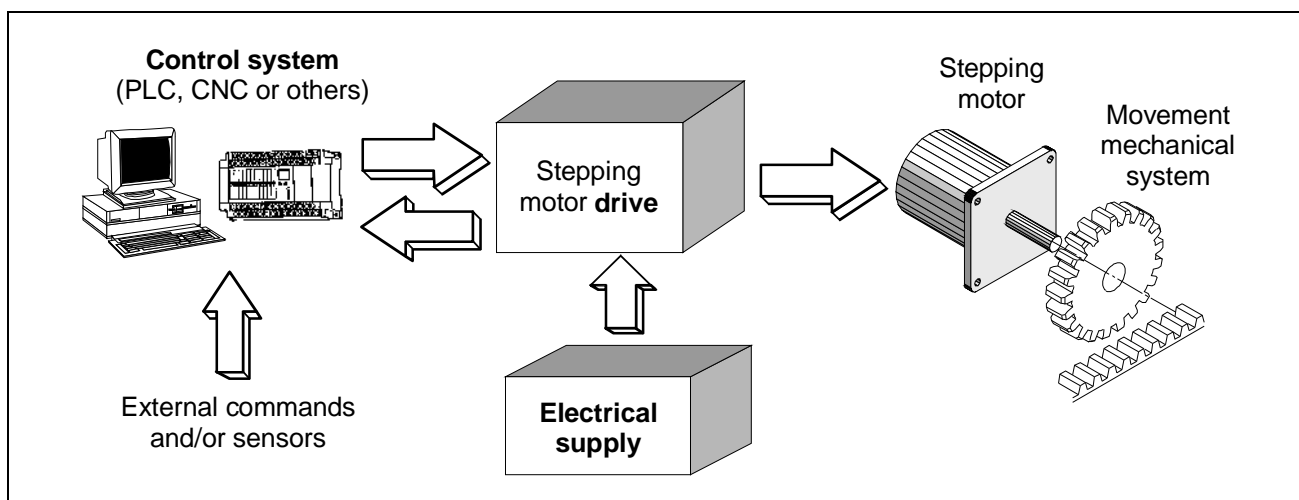

Fig. 1
1.2 - For the purposes of this manual the terms used assume the meaning below described (see fig. 1).
- Drive: electronic part of an electromechanical motion system, which receives some digital or analog input signals from an external control system and gives to the stepping motor the suitable phase excitation sequences, in order to obtain the mechanical movements required by the control system. The drive can also communicate its status to the control system through some logic signals. In this manual we consider the drive as a BDM (EN 61800-3, chap.3, Fig.1).